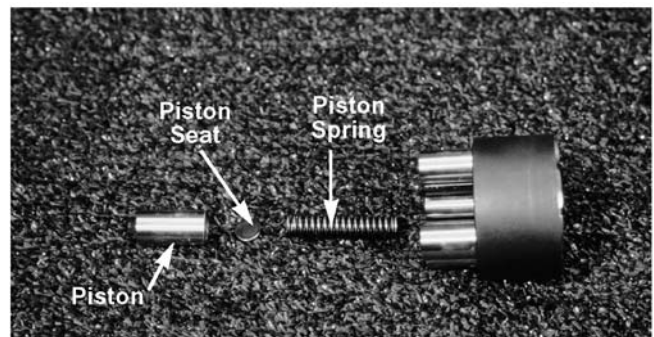

**Figure 6-150**
- 28. Inspect the pump block, piston seat areas, running surface, and splines for excessive wear or damage. See figure 6-150.